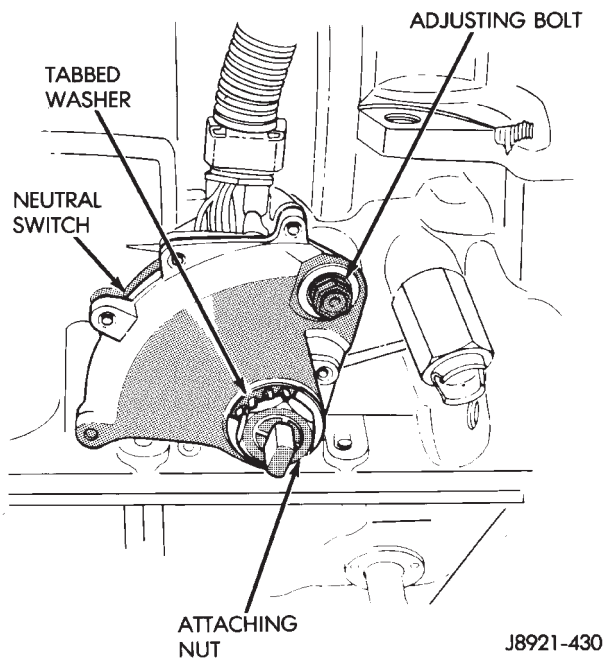

Fig. 5 Park/Neutral Position Switch Removal/Installation
- (1) Raise vehicle.
- (2) Disconnect switch wire harness connector.
- (3) Pry washer lock tabs upward and remove switch attaching nut and tabbed washer (Fig. 5).
- (4) Remove switch adjusting bolt (Fig. 5).
- (5) Slide switch off manual valve shaft.